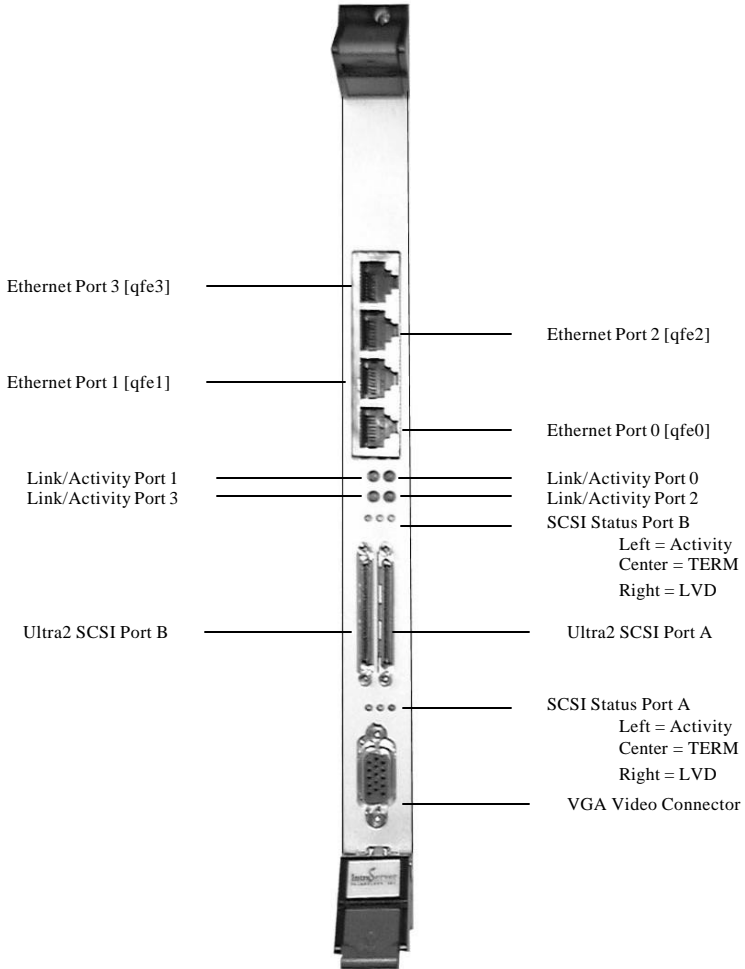

Figure 2: ITI-8241C-R Rear I/O Connector Configuration
- Locate J10 and J11. (See Figure 2 for jumper locations)
- Locate J6, J7, J8 and J9. (See Figure 2 for jumper locations)
If a “Y” cable is used on the FRONT external connector, placing the ITI-8000 Series adapter in the middle of the LVD SCSI bus, you must install a jumper on the invert termination headers HDR1 and HDR3 (see Figure 2), this will force the module NOT to terminate the bus. This situation could arise in a SCSI cluster.
If a “Y” cable is used on the REAR external connector, placing the ITI-8000 Series adapter in the middle of the LVD SCSI bus, you must install a jumper on the invert termination headers HDR6 and HDR7 (see Figure 2), this will force the module NOT to terminate the bus. This situation could arise in a SCSI cluster.